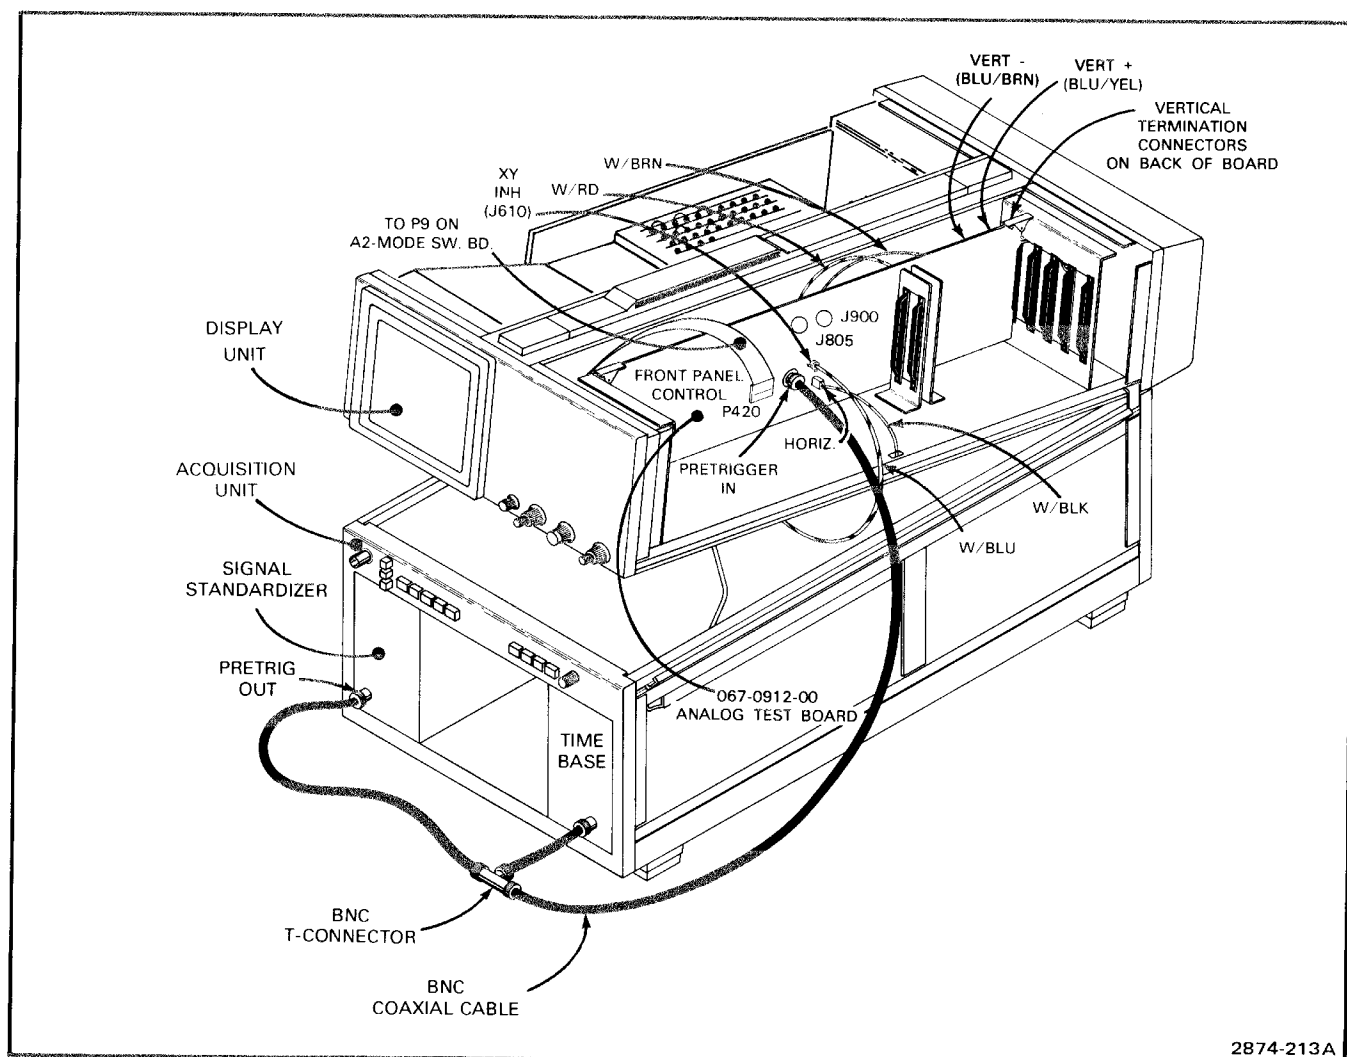

Figure 3-4. Analog Test Board (067-0912-00) interconnections.
The Analog Test Board plugs into the A29-Display board slots, P109 and P110, of the 7854 digital backplane. The ten-conductor ribbon cable connects to P9 of the A2-Mode Switch board. See Figure 3-4.
- g. Connect the cables as indicated in Figure 3-4.